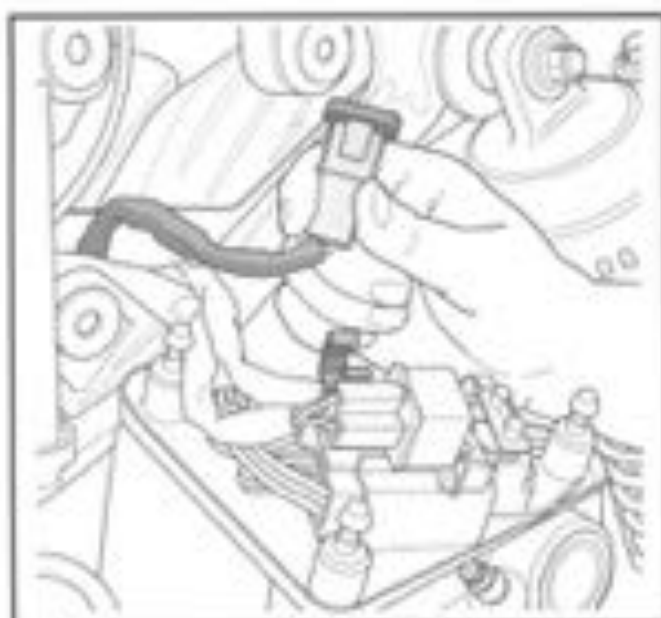

Figure 7-11. Data Link Connector
2. See Figure 7-11. Note the Data Link connector (pin side of 4-pin Deutscht) on the side cover.